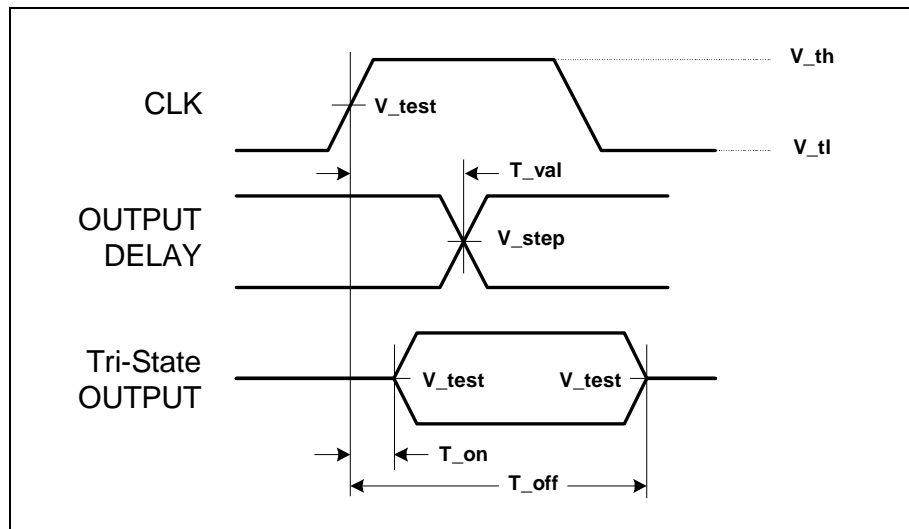
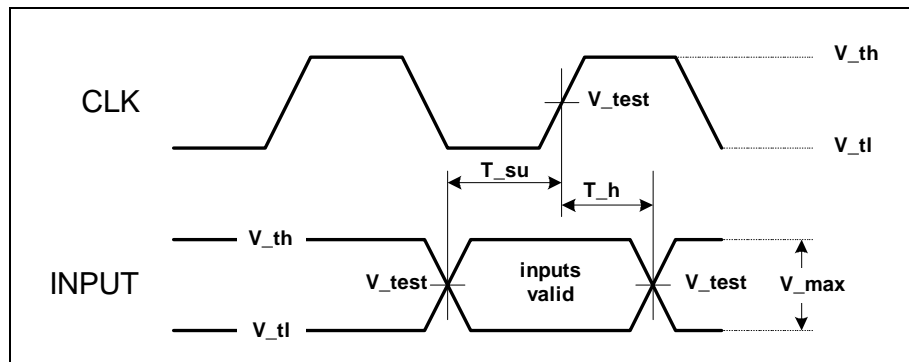

Figure 32. Output Timing Measurement Conditions
Figure 33. Input Timing Measurement Conditions
Figure 32, Figure 33, and Table 39 define the conditions under which timing measurements are done. The component test guarantees that all timings are met with minimum clock slew rate (slowest edge) and voltage swing. The design must guarantee that minimum timings are also met with maximum clock slew rate (fastest edge) and voltage swing. In addition, the design must guarantee proper input operation for input voltage swings and slew rates that exceed the specified test conditions.
- Timing measurement conditions are illustrated in Figure 32.
- Timing measurement conditions are illustrated in Figure 33.